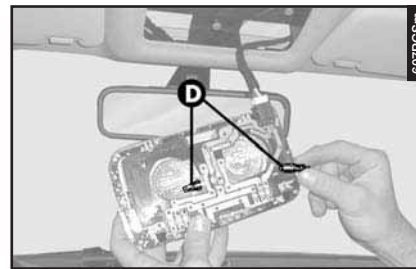

fig. 70
– Remove and replace the bulb concerned (**D-fig. 70**) (tubular with bayonet coupling), pushing gently and turning counter-clockwise.